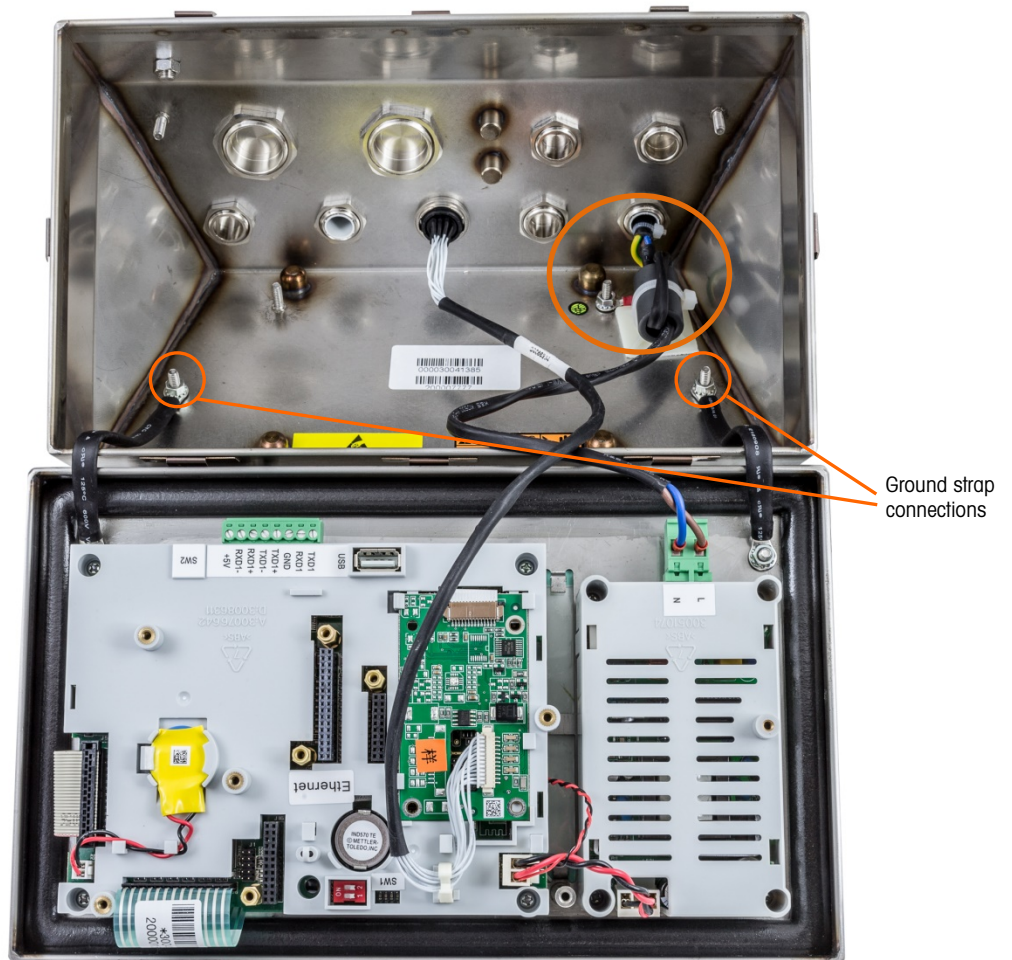

Figure 2-14: Loosening the Ground Straps
- f. Loosen and remove the two nuts securing the two grounding straps (these also operate as hinges for the front cover) to the rear housing. See Figure 2-14.